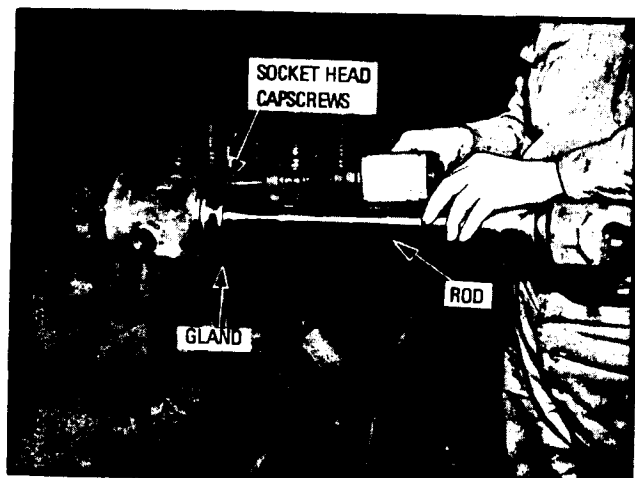

Fig. 2--Disassembly of Gland Assembly
2. Remove capscrows fastening the gland to the head. See Fig. 2.